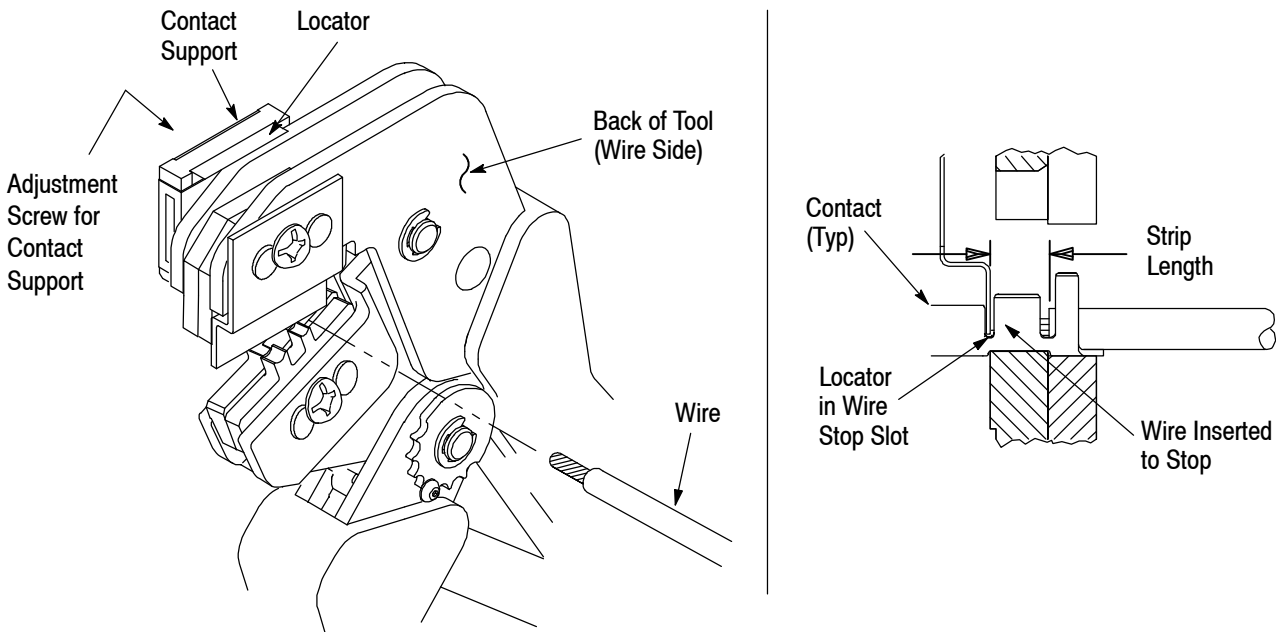

Figure 3
**4. CONTACT SUPPORT ADJUSTMENT** (Figure 3)
Refer to the table in Figure 1 and select wire of the specified size and insulation diameter. Strip the wire to the length indicated in Figure 1, taking care not to nick or cut wire strands. Select an applicable contact and identify the appropriate crimp section according to the wire size markings on the tool. Refer to Figure 3 and proceed as follows:
2. Position the contact so that the mating end of the contact is on the locator side of the tool, and so that the open “U” of the wire and insulation barrels must face the top of the tool. Place the contact up into the nest so that the movable locator drops into the slot in the contact. Refer to Figure 3. Butt the front end of the wire barrel against the movable locator.
5. Insert stripped wire into contact insulation and wire barrels until it is butted against the wire stop, as shown in Figure 3.
**NOTE** The crimped contact may stick in the crimping area, but the contact can be easily removed by pushing downward on the top of the locator (see Figure 3).